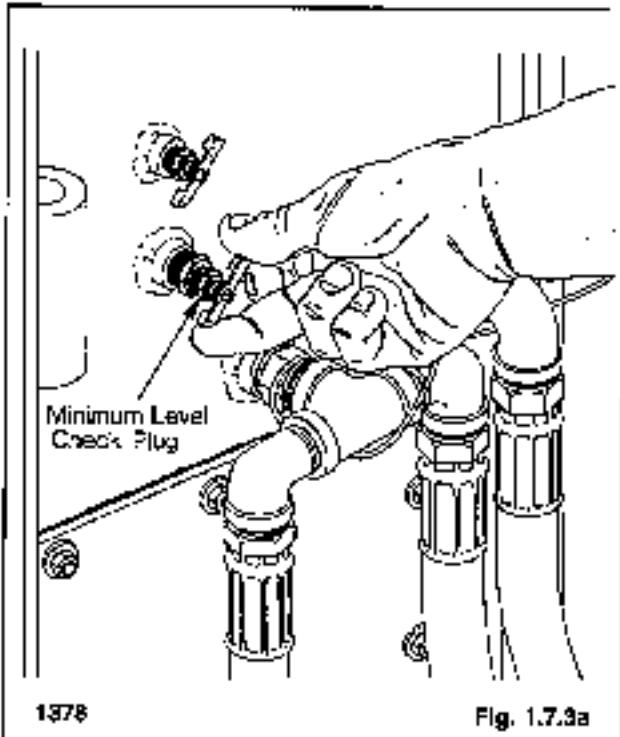

Fig. 1.7.3a
4. Open the bottom or minimum oil level check cock (fig. 1.7.3a). If oil flows from the check cock the level is satisfactory.